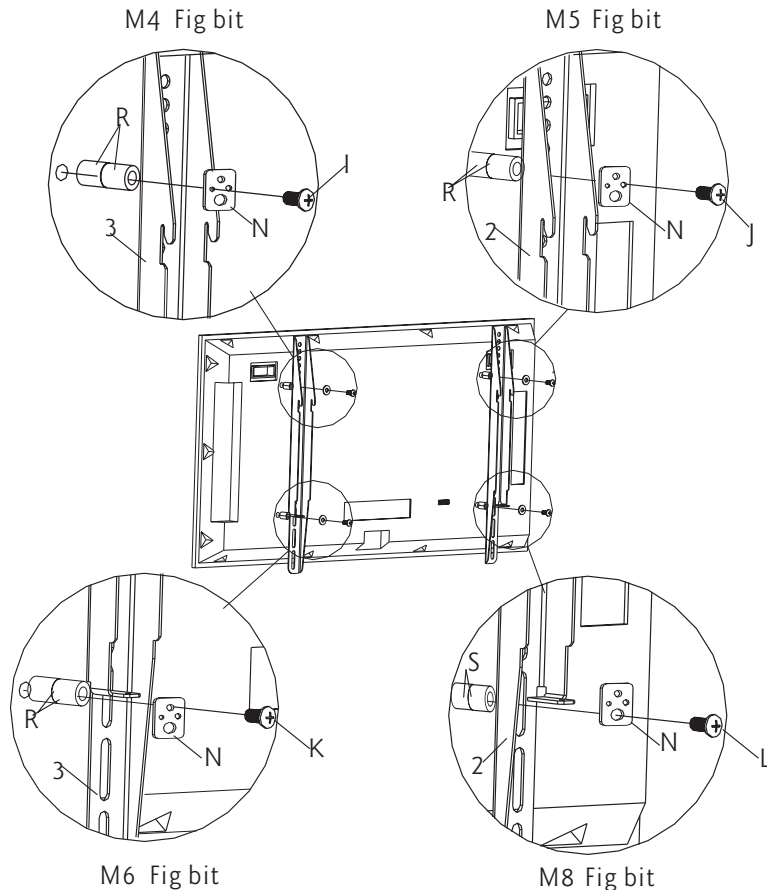

Fig 1c
3. For display with protruding HDTV tune or deeply curved backs (Fig b), two 9/16" spacers (R) or two 1/2" spacers (S) should be used. Stack two spacers and then install them between display and the bracket. As shown in Fig 1c.